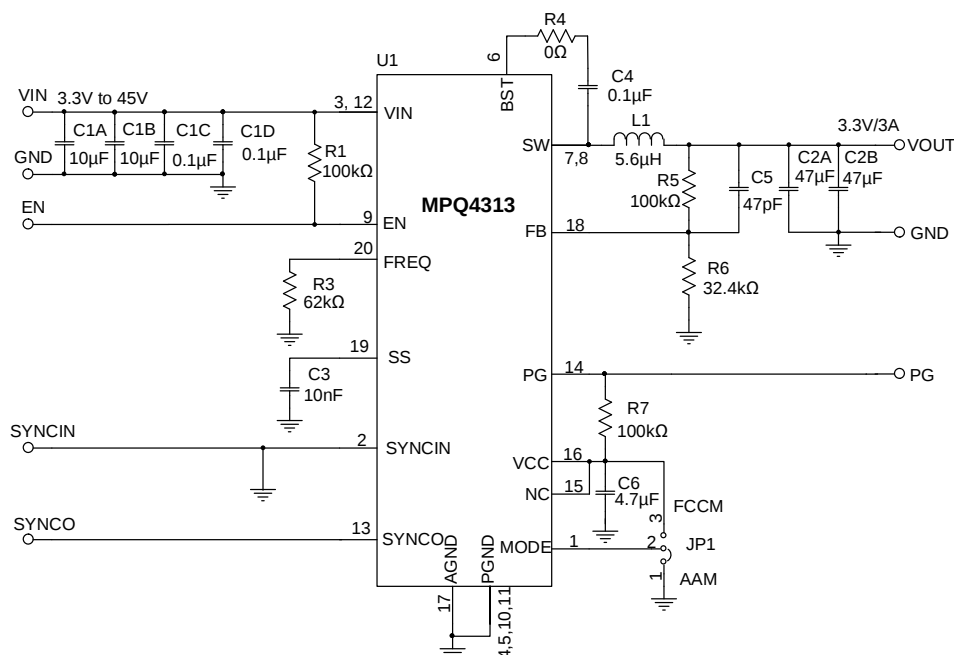

Figure 12: $V_{OUT} = 3.3V$, $f_{SW} = 470kHz$
- 9) The recommended PCB layout is based on Figure 12.